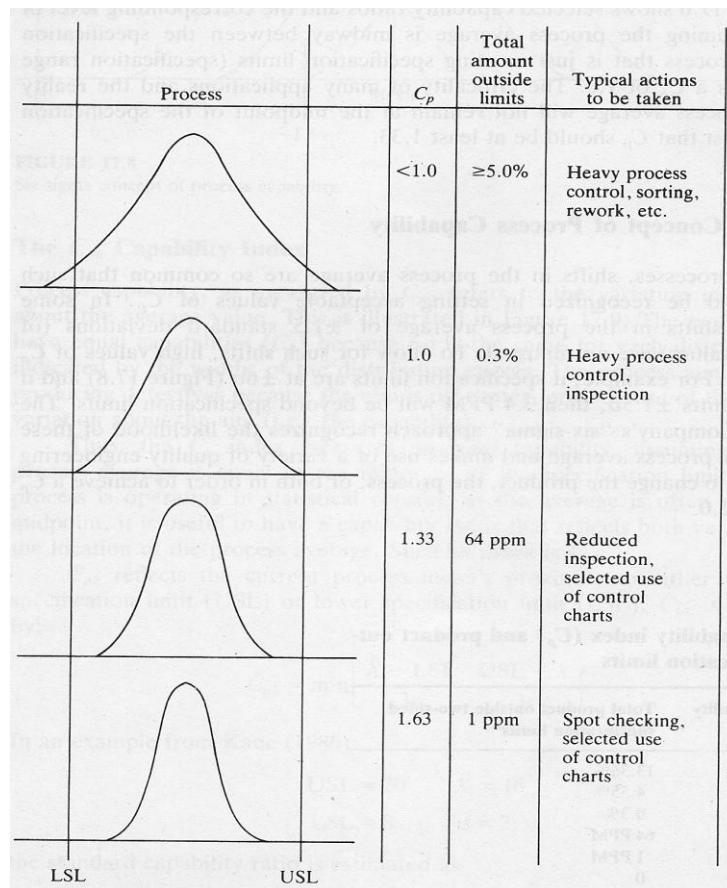

Fig.7 Process variability
- A defect rate of one part per million requires a capability ratio of about 1.63 (see fig. 7)